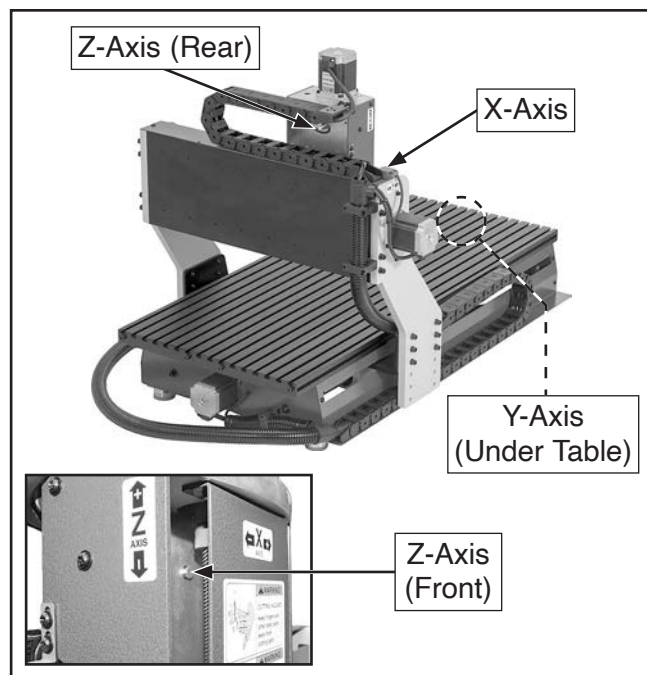

Figure 80. Location of proximity switches/sensor.
2. Position all axes near machine center so none of the proximity switches/sensor are actuated (see **Figure 80**).